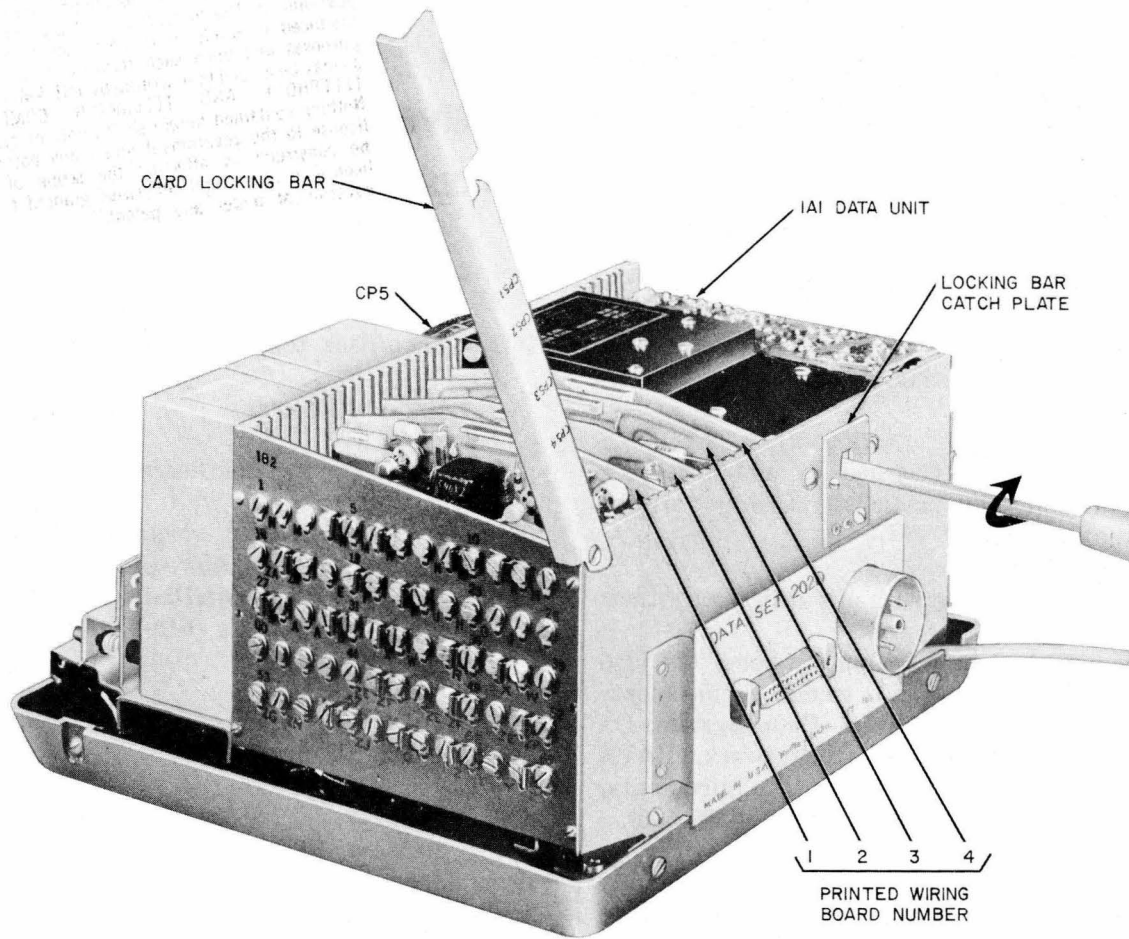

Fig. 1—Printed Wiring Board Location
1.04 Fig. 1 and Table A furnish printed wiring board assembly identification information. Fig. 1 shows an older model of the data set. Newer models differ slightly in appearance.